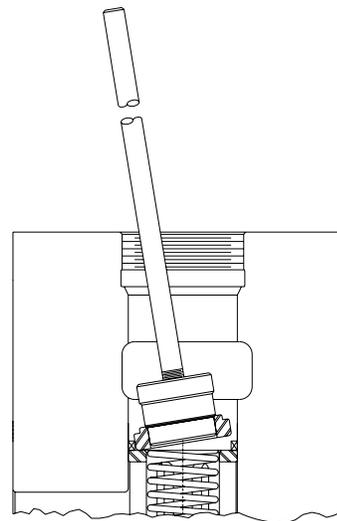

Figure 7
7. Insert valve seat driver in discharge seat and rock back and forth. This action will loosen the seat and allow it to be removed with the hook. (Figure 7, page 36).